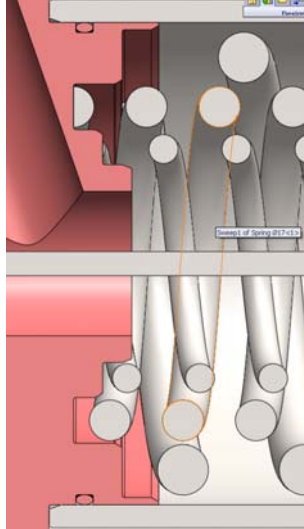

Figure 12 : Springs in actuator
- The Rear flange has been given with the locating grooves for springs. So insert these springs one by one taking into care that these springs are properly located in those grooves as shown in figure 12 without damaging the internal diameter of the Tube.